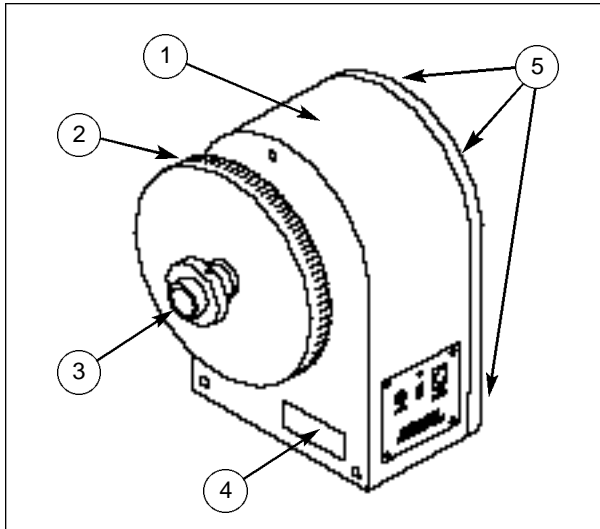

Fig. 14: Drive Motor Housing. (1) Dust Cover; (2) R.A. Setting Circle; (3) Set Collar; (4) Battery Compartment; (5) 3 Knurled Head Screws.
1. On the Drive Motor Housing (18), Fig. 1, loosen the set screw and remove the Set Collar (3), Fig. 14.
2. Loosen the set screw and remove the R. A. Setting Circle (2), Fig. 14.
3. Remove the three Phillips head screws (5), Fig. 14, attaching the dust cover (1), Fig. 14, to the back plate of the Drive Motor Housing.